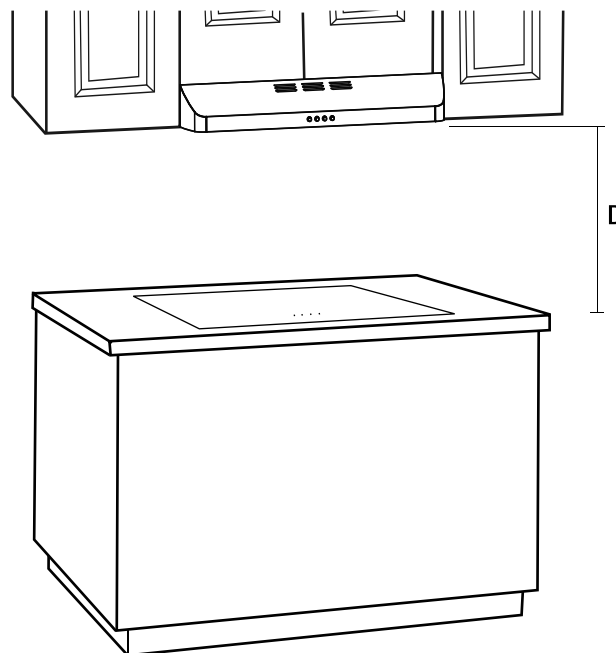

Fig. 1
4. If you choose to hang the range hood as below (Fig. 1) distance (D) from the cooktop surface, use extra caution as the surface of range hood may be extremely hot to the touch. For this unit, (D in Fig. 1) is 458 mm - 710 mm (18 in - 28 in). If you choose an 18 inch installation, the temperature of the unit surface will be high if the unit is operated under high power cooking for a certain amount of time.